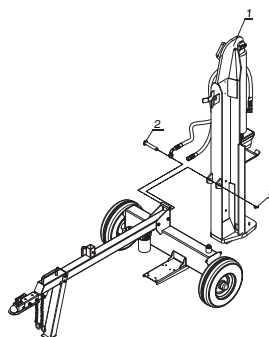

Figure 5
1. Attach the beam assembly (#1) to the hydraulic tank and secure using the hinge pin (#2 and R-Pin Ø3 #3). (See fig. 5)